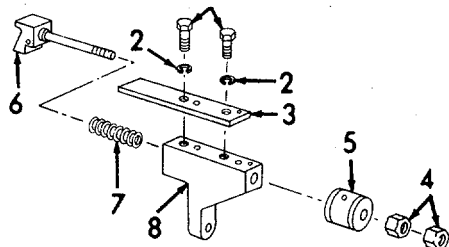

Figure 6-160. Cushion Spring Holder, Assembly
f. Assembly (Refer to Figure 6-160).